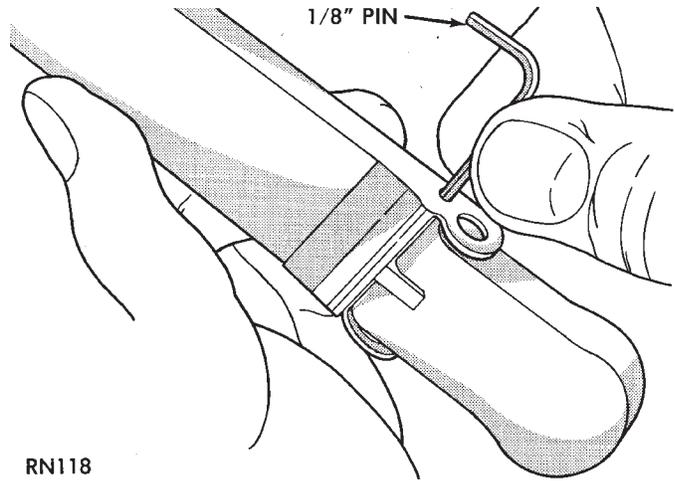

Fig. 6 Removing Wiper Arm—AA, AC, AP and AY Bodies 16
(1) Lift the wiper arm and place a 3.17mm (1/8 inch) pin into the arm pin hole (Fig. 6).